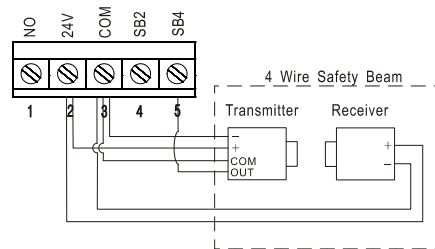

Fig. 13
- 3rd party normally open 24VDC 4 wire Safety Beams (Fig.13)